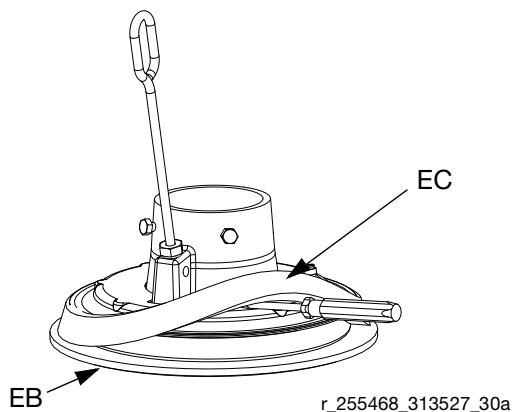

FIG. 17: Sliding spacer
3. By hand, angle spacer (EC) and work it off the plate, pulling it down over the flange and bottom wipers (EB). See FIG. 17.
4. Save spacer (EC), as it is required for other applica-
2. Ensure large diameter of spacer (EC) is facing **down**. Work spacer (EC) up over the platen by hand completely above the flange of the platen. See FIG. 17.